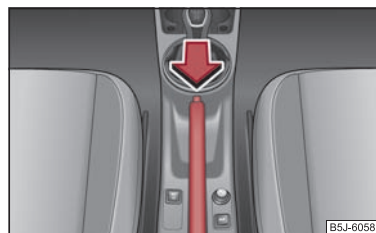

Fig. 96 Centre console: Handbrake
- Pull the handbrake lever up slightly and **at the same time** press in the locking button ⇒ fig. 96.